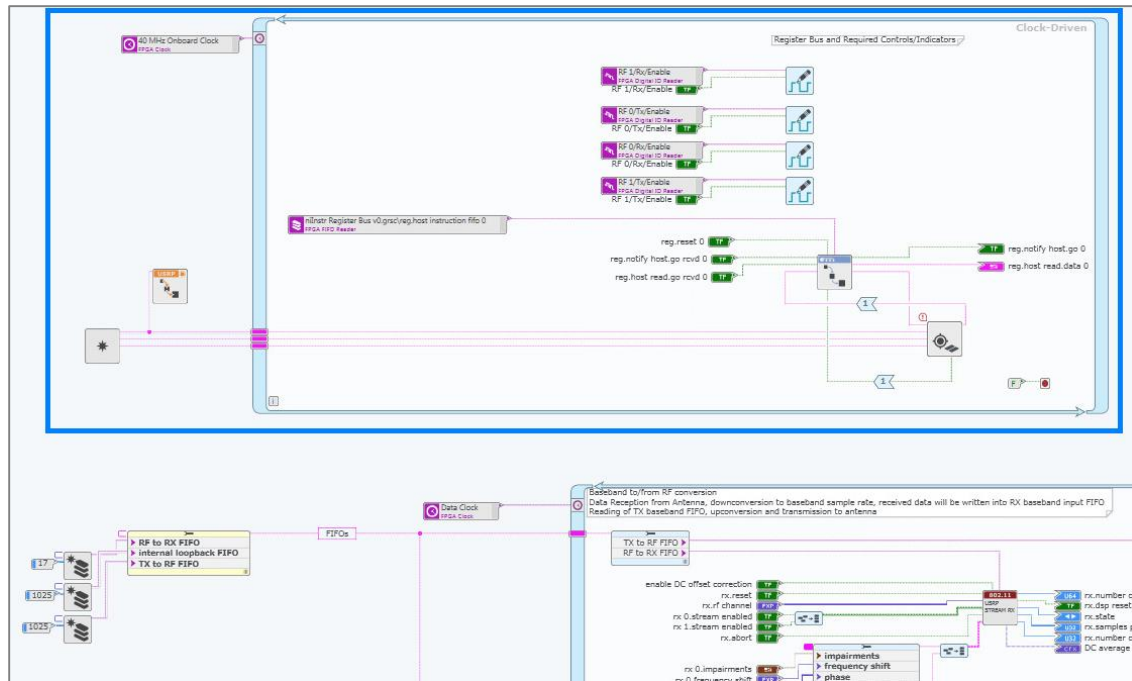

Figure 15 - Pasted USRP interface elements wired up
7. In the project you wish to migrate, paste the elements you copied from the new streaming project and wire as shown in Figure 15.